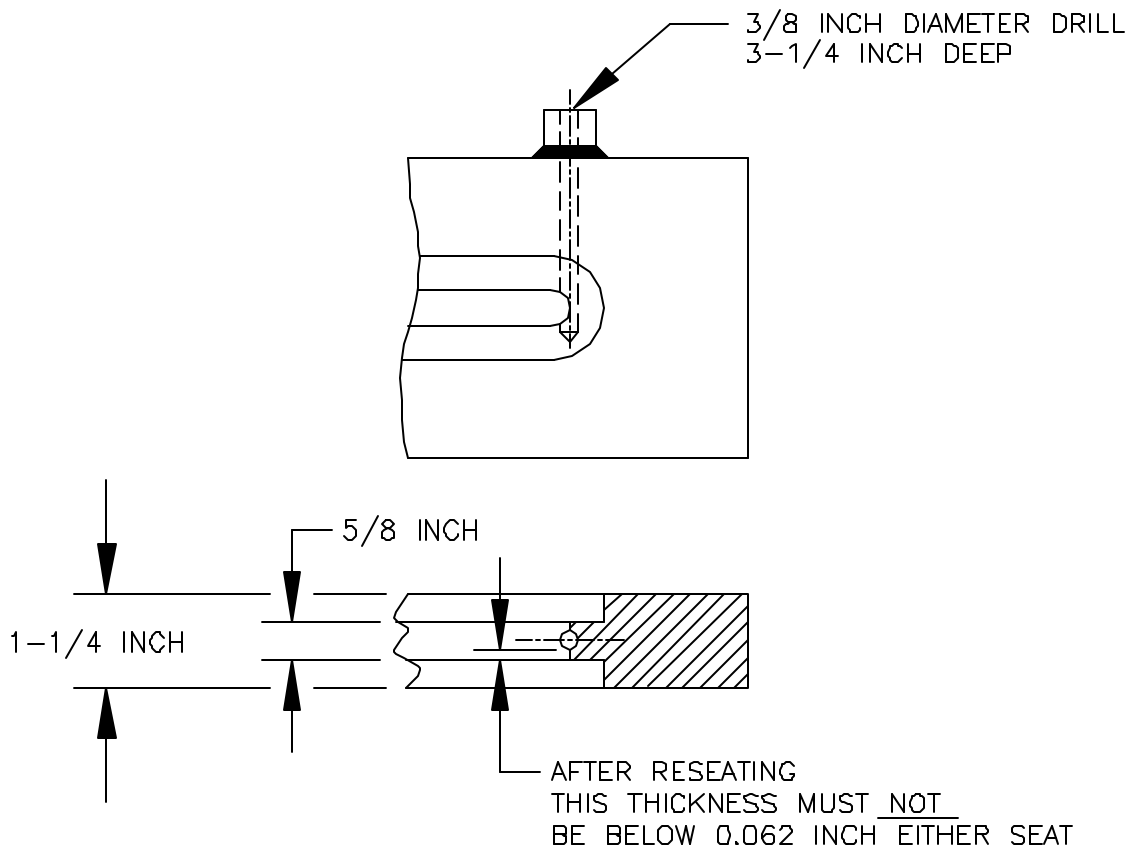

FIGURE 6
4. The maximum allowable depth for remachining the gasket seat in chamber is as shown in Figure 6. Do not remove any more material than necessary to eliminate defect.